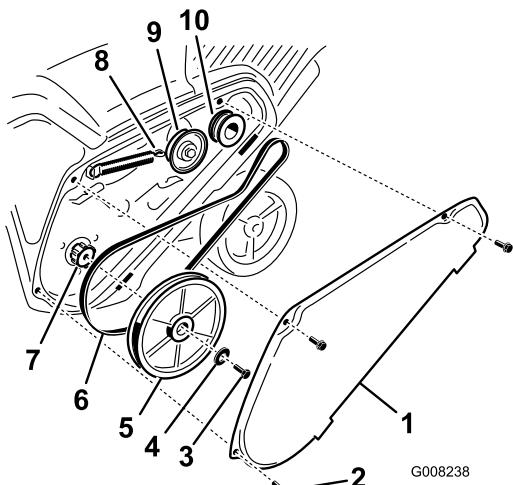

Figure 36
1. Remove the drive belt cover by removing the 3 bolts as shown in Figure 36.
2. Bolt (3)	7. Rotor shaft
7. Install the curved washer and the rotor pulley bolt and tighten them securely (Figure 36).
2. Unhook the brake spring from the idler arm to release the belt tension (Figure 36).
3. Remove the screw and curved washer that holds the rotor pulley (Figure 36).
4. Remove the rotor pulley and the drive belt (Figure 36).
Note: Route the new drive belt first around the engine pulley, then the idler pulley, and finally around the loose rotor pulley positioned just above the rotor shaft (Figure 36).
6. Install the rotor pulley onto the rotor shaft (Figure 36).